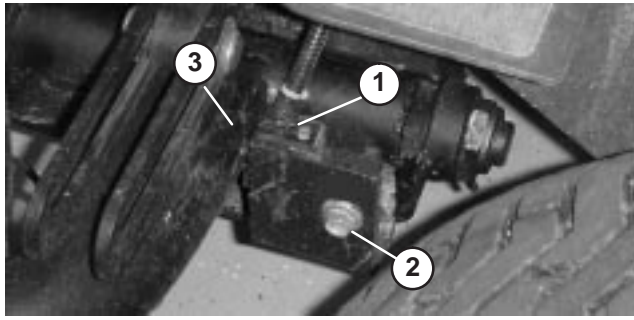

Figure 12
- Loosen the carriage bolt nut securing the lift arm switch bracket to the #4 lift arm (left front) (Fig. 12).